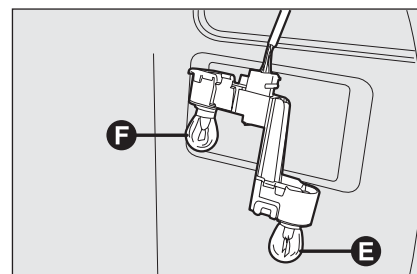

fig. 40
- ☐ remove and replace the burnt-out bulb by pressing it slightly and turning it counterclockwise **fig. 40**: